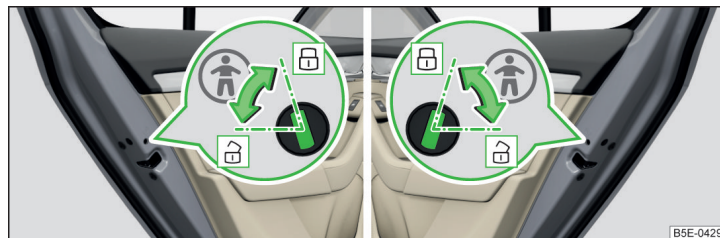

Fig. 37 Rear door: Switching the child safety lock on/off
- To **switch on**, turn the parental control with the vehicle key in position » Fig. 37.